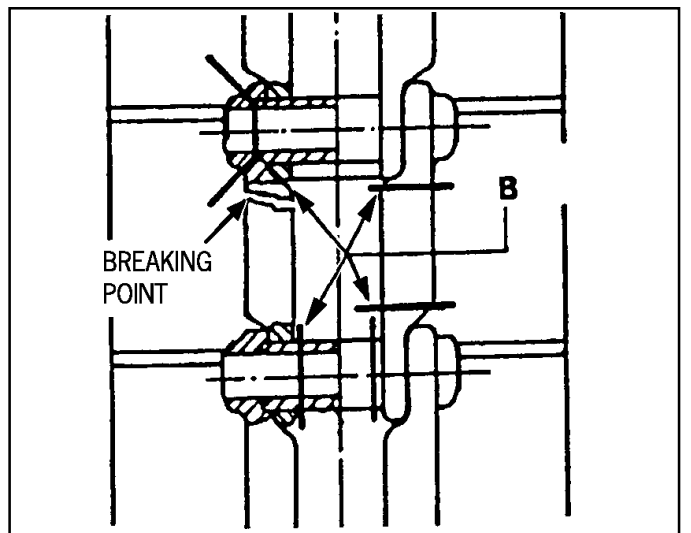

Fig. 2-8 Cut out links, bushings & pins as shown
3. Cut the links, bushings and pins of the damaged link as shown in fig. 2-8. Remove the cut up parts.